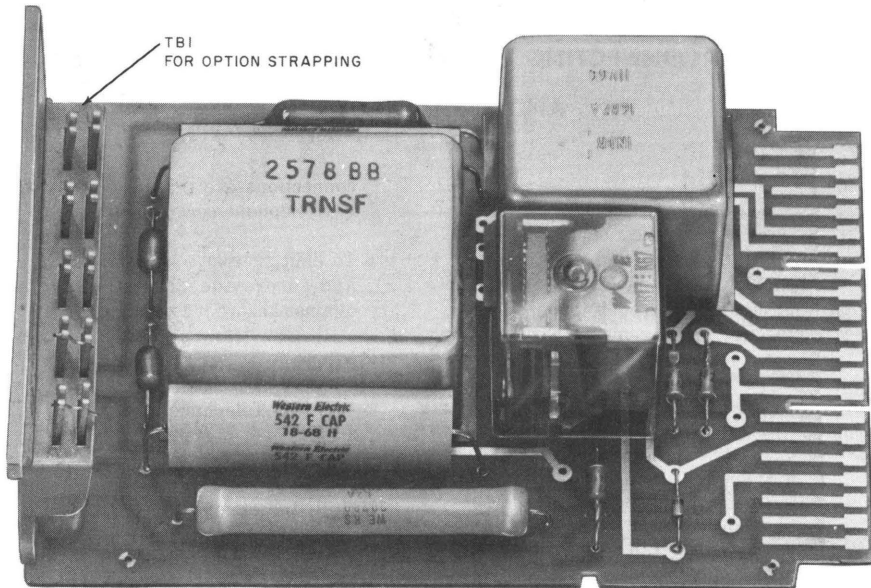

Fig. 1—111A Interconnecting Unit
- Unit, Interconnecting 111A (one per central office[CO] line, Fig. 1)